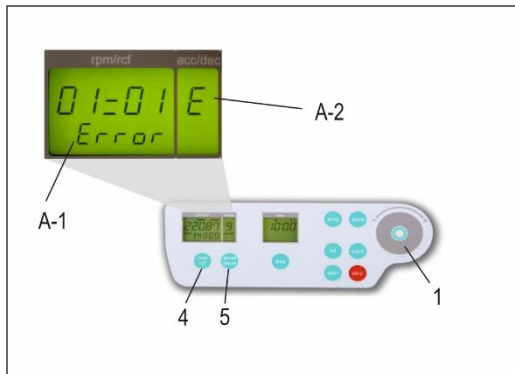

Figure 12
The list of the last 99 error messages can be reviewed by pressing the key, "rpm/rcf" (4) and scroll through, with the control field (1) (see Figure 12). The respective error codes appear in the display, "rpm/rcf" (A-1). Please refer to Table 5: "Error Messages", (see APPENDIX P.IX).